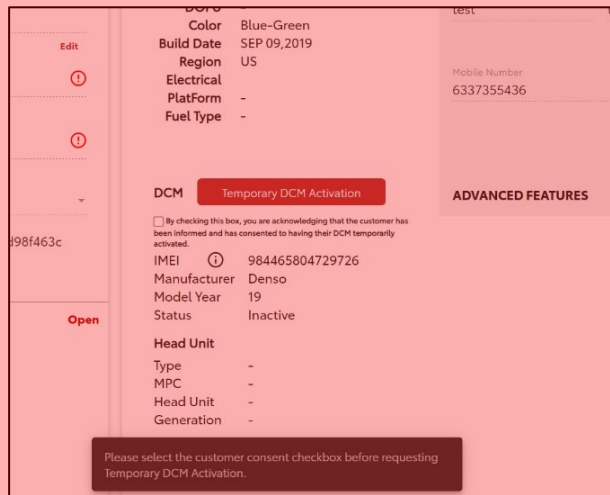

Figure.1 Dealer Portal Temporary DCM Activation button
2. Enter the VIN into the Dealer Portal, check the customer consent check box, and click the "Temporary DCM Activation" button (Figure 1). The service will be active for **72 hours**.